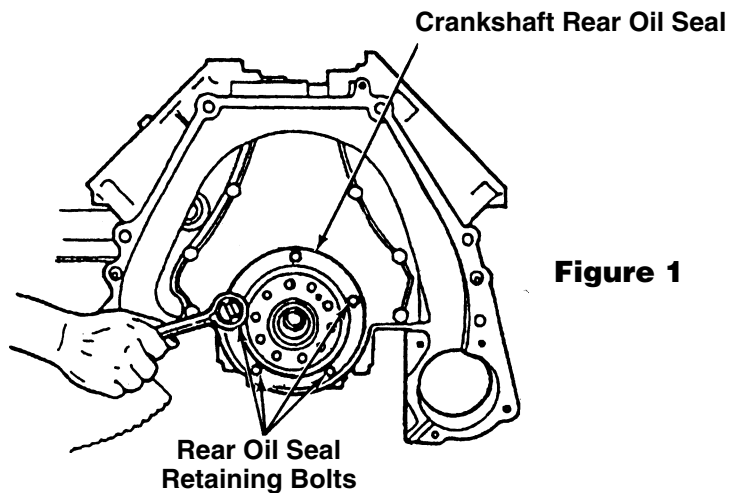

Figure 1
1. Remove the five crankshaft rear oil seal retaining bolts and the crankshaft rear oil seal. See Figure 1.